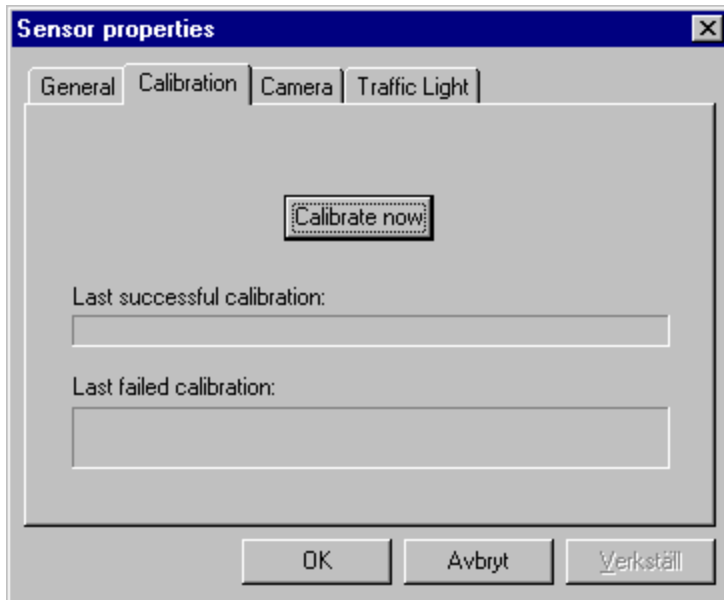

Figure 2
5. Select the Calibration tab. The dialog should look as in Figure 2.